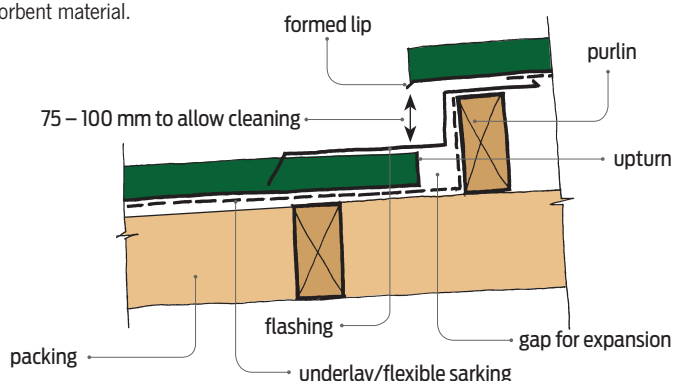

Figure 1. Gap between materials to allow for thermal expansion.
- providing clearances or gaps between elements/materials (Figure 1)